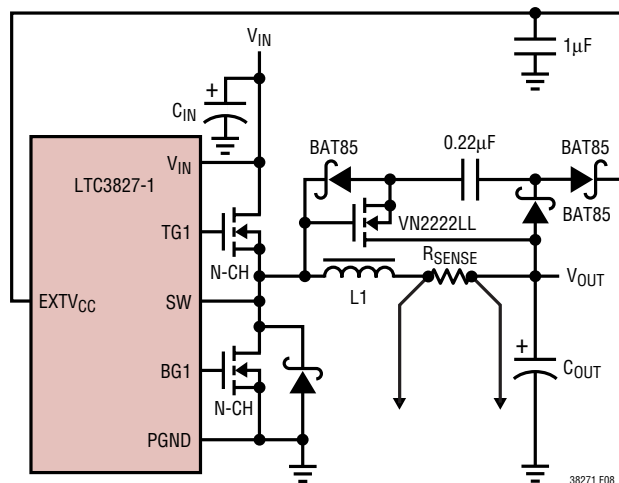

Figure 8. Capacitive Charge Pump for EXTV_{CC}
4. EXTV_{CC} Connected to an Output-Derived Boost Network. For 3.3V and other low voltage regulators, efficiency gains can still be realized by connecting EXTV_{CC} to an output-derived voltage that has been boosted to greater than 4.7V. This can be done with the capacitive charge pump shown in Figure 8.